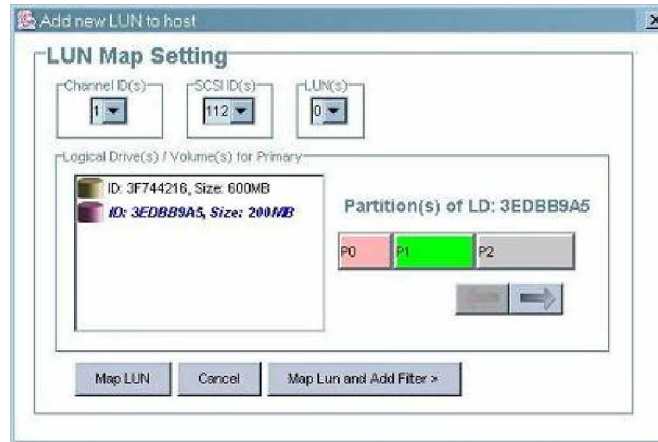

Figure 10-5: Select Add New LUN to Host
Step 5. If your RAID subsystem comes with a Fibre Channel host interface, you may select the **Map LUN and Add Filter** button to continue with another process. See *Extended LUN Mapping* for more details. See *Figure 10-5* for the configuration screen.